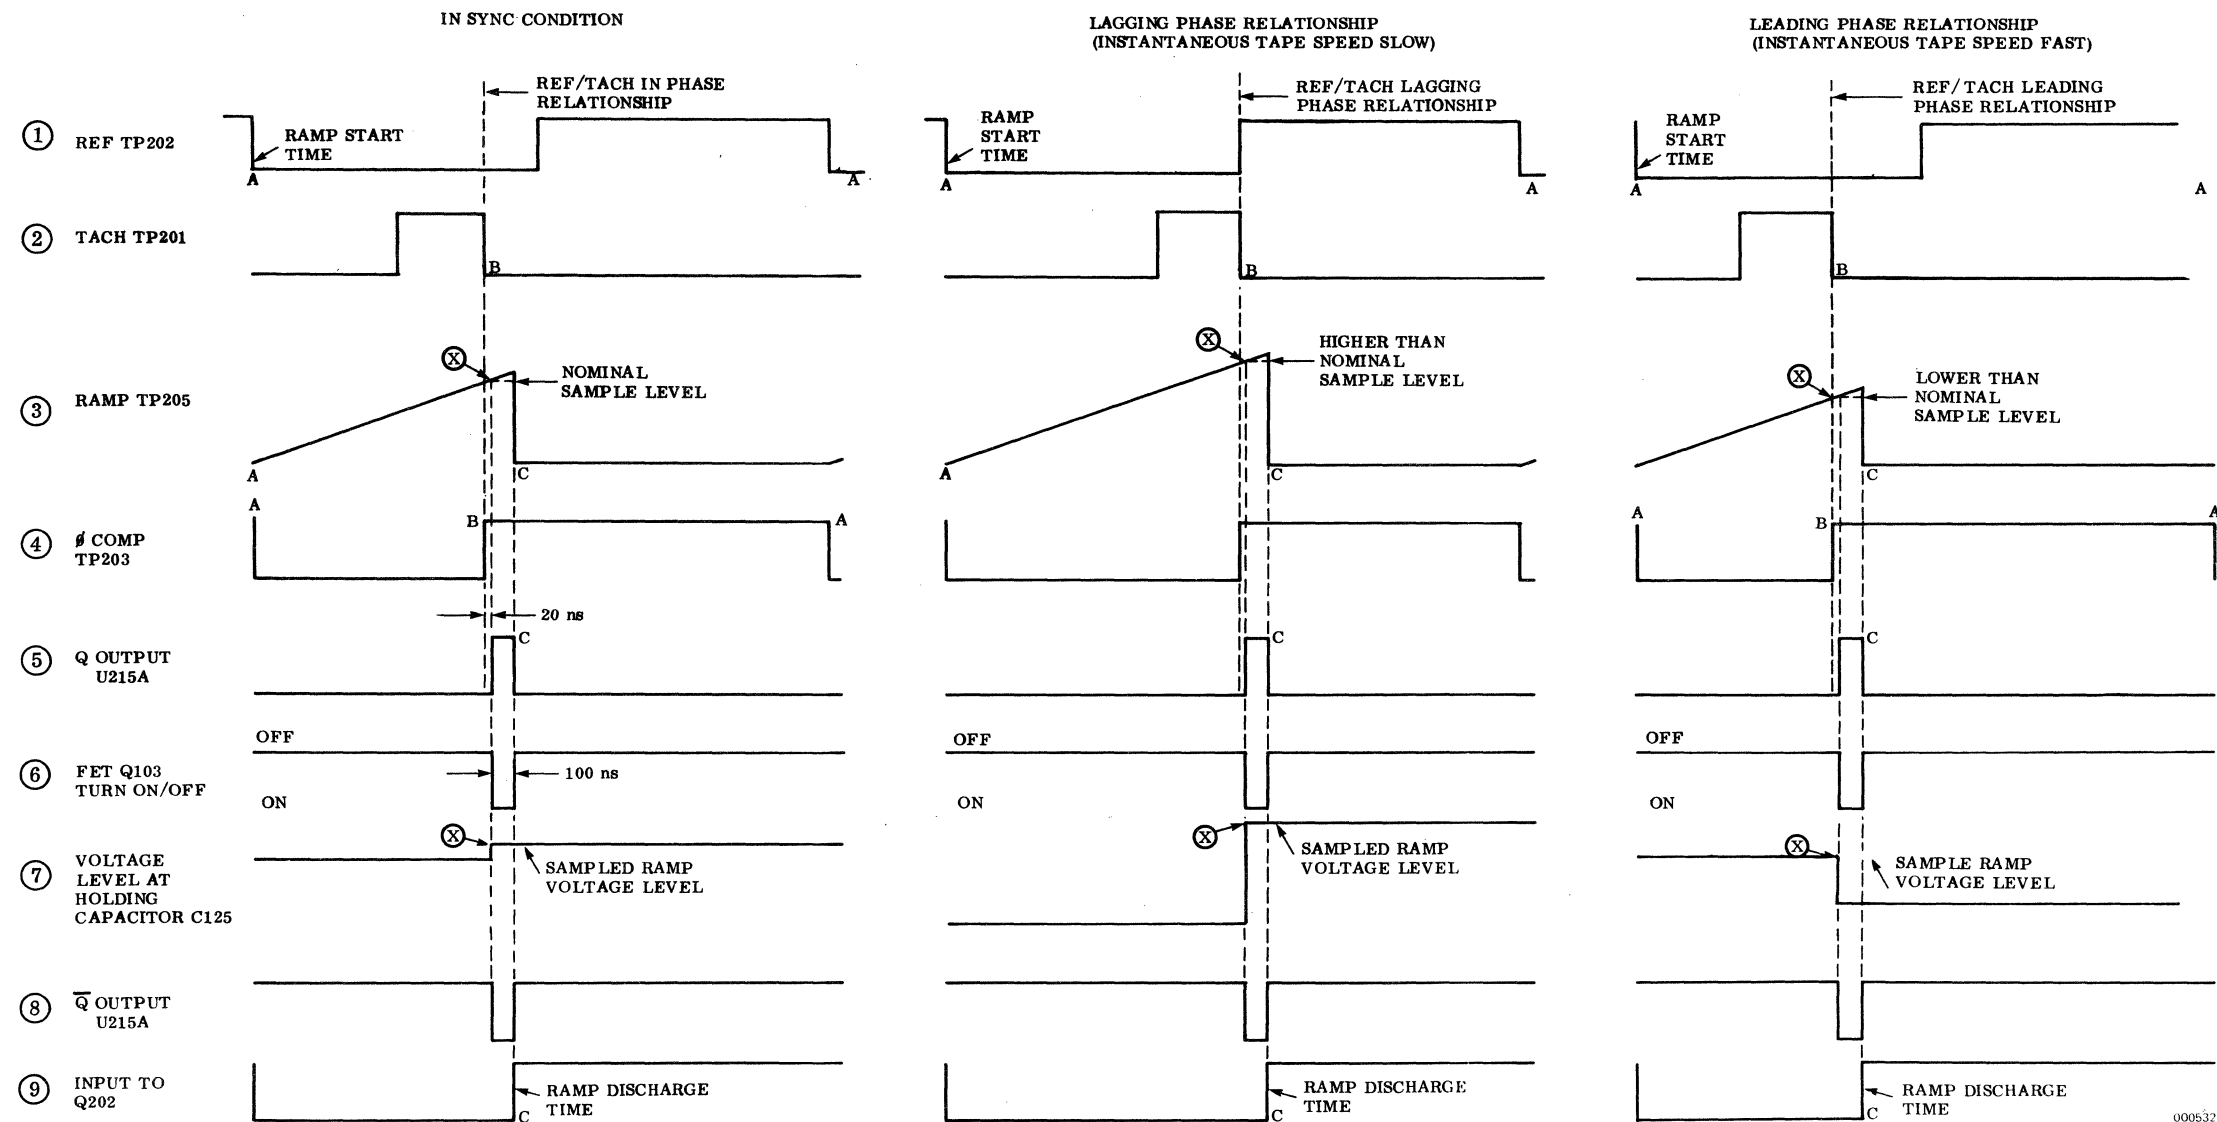

Figure 5-11. Waveforms for the Phase Comparator and Sample and Hold Stages
- a. Ramp generator - Its function is to generate a linear waveform which starts with reference frequency time and stops at tach tape time. Therefore, the ramp waveform is coincident with the phase comparator output at TP203 and it is shown on the waveforms of Figure 5-11 (#3).
- c. The sample-and-hold circuit. This is essentially an fet switch which, when triggered, permits the dc level that the ramp has reached to pass to a holding capacitor. The shorter the period of time between the start of the ramp and its sampling, the lower the resulting dc level in the holding capacitor. Conversely, the longer the time between the start of the ramp and its sampling, the higher the dc level. Since the time of sampling is a function of the relationship between the reference and the tape or tach signals, the dc level held by the holding capacitor is also representative of that relationship. See waveforms of Figure 5-11.
The start of the charging slope (ramp) of capacitor C217 is triggered by a reference frequency pulse. The point at which the capacitor is discharged is controlled by the tape or tach signal plus a 100 ns sample pulse. Thus, the time between the start and the stop (discharge) of the ramp is a function of the phase relationship between the reference and tape or tach signals. The waveforms of Figure 5-11 illustrate these relationships.